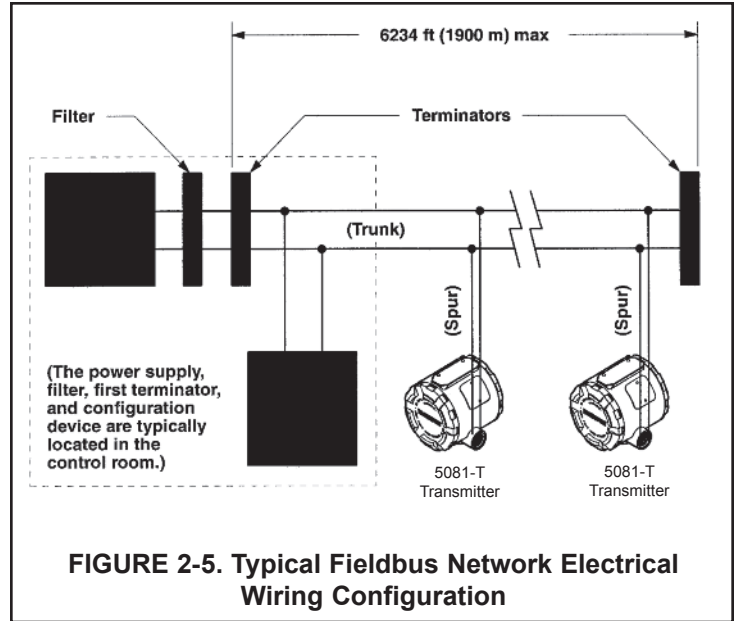

FIGURE 2-5. Typical Fieldbus Network Electrical Wiring Configuration
2.5.1 Power Supply Wiring. Refer to Figure 2-5 and Figure 2-6.